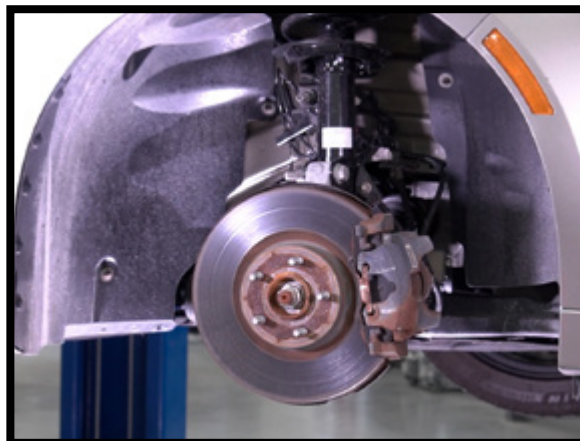

FIGURE 1
1. RAISE VEHICLE AND REMOVE THE FRONT RIGHT WHEEL. (FIGURE 1)